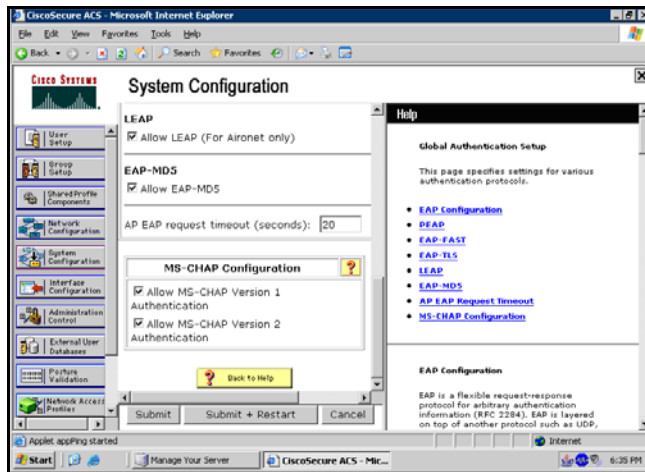

FIG. 80 EAP-LEAP sample Cisco System Security page
- Refer to FIG. 80 for an example of how a typical EAP-LEAP system configuration page should appear.